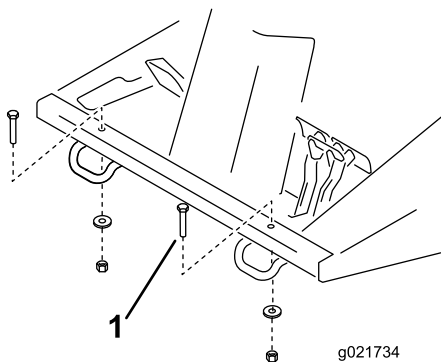

Figure 7
1. Remove the (2) bolts, washers and nuts from the front of the operator's platform (Figure 7).